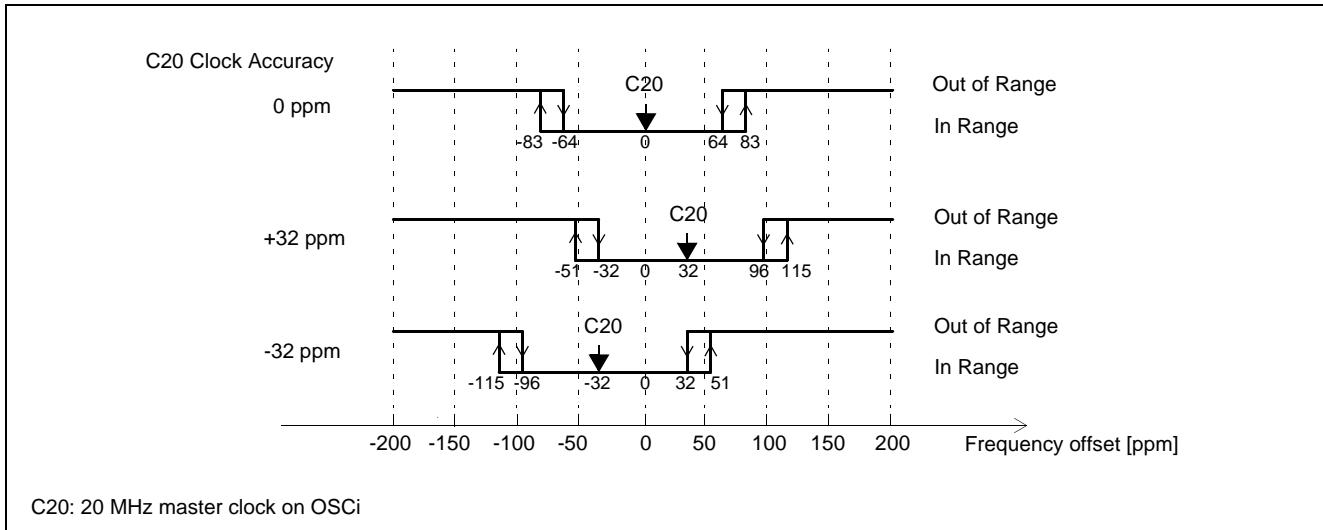
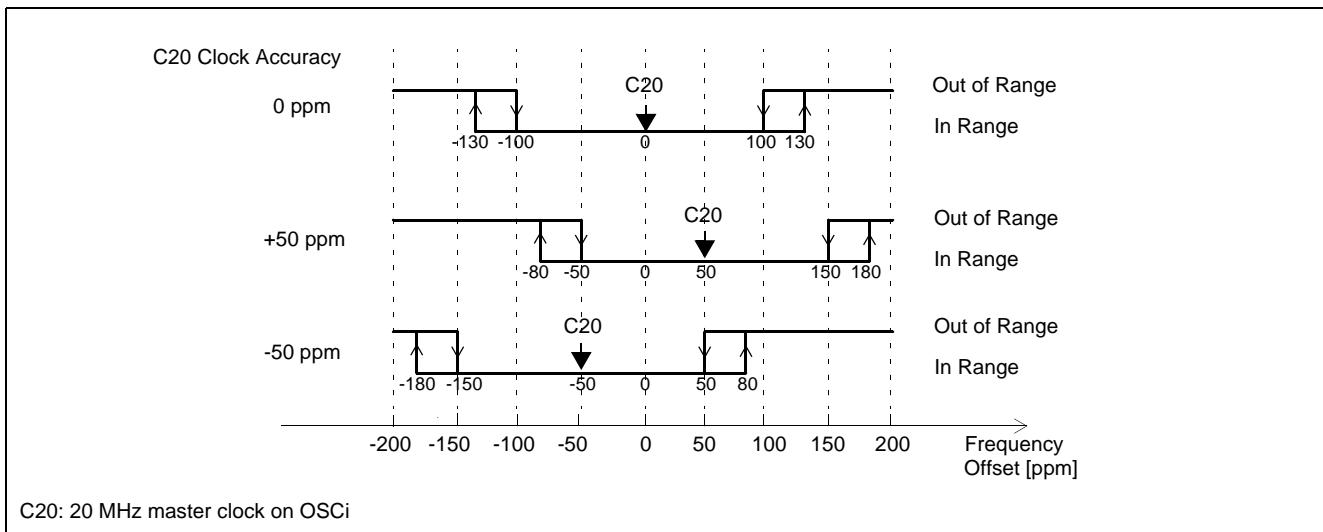

Figure 5 - DS1 Mode Out-of-Range Limits (OOR\_SEL=0)
Figure 6 - E1 Mode Out-of-Range Limits (OOR\_SEL=1)
- **Precise Frequency Monitor:** This circuit determines whether the frequency of the reference clock is within the applicable out-of-range limits selected by the OOR\_SEL pin, see Figure 5, Figure 6 and Table 1. It will take the precise frequency monitor up to 10 s to qualify or disqualify the input reference.